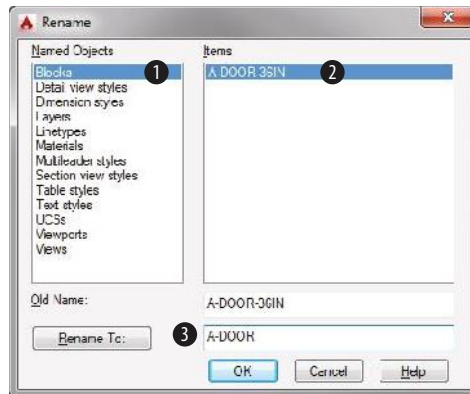

FIGURE 9.50: Renaming the A-DOOR-36IN (A-DOOR-0915) block to A-DOOR by using the RENAME command
11. Enter **RENAME** at the command line to open the Rename dialog box shown in Figure 9.50.
13. Select the A-DOOR-36IN (A-DOOR-0915) block in the Items list, and enter A-DOOR in the Rename To text box, as shown in Figure 9.50.